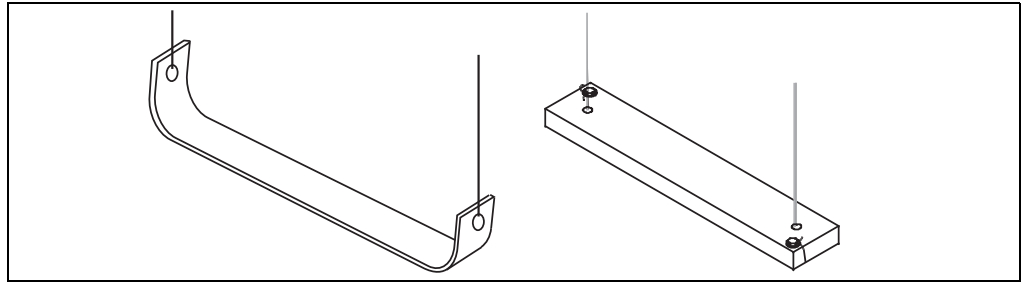

Figure 4-31: Typical Anchor Installment with Cable Clamps on left view.
3. Fasten the bottom anchor to the guide cables (see Figure 4-31) and lower the anchor slowly through the inspection hatch into the tank.